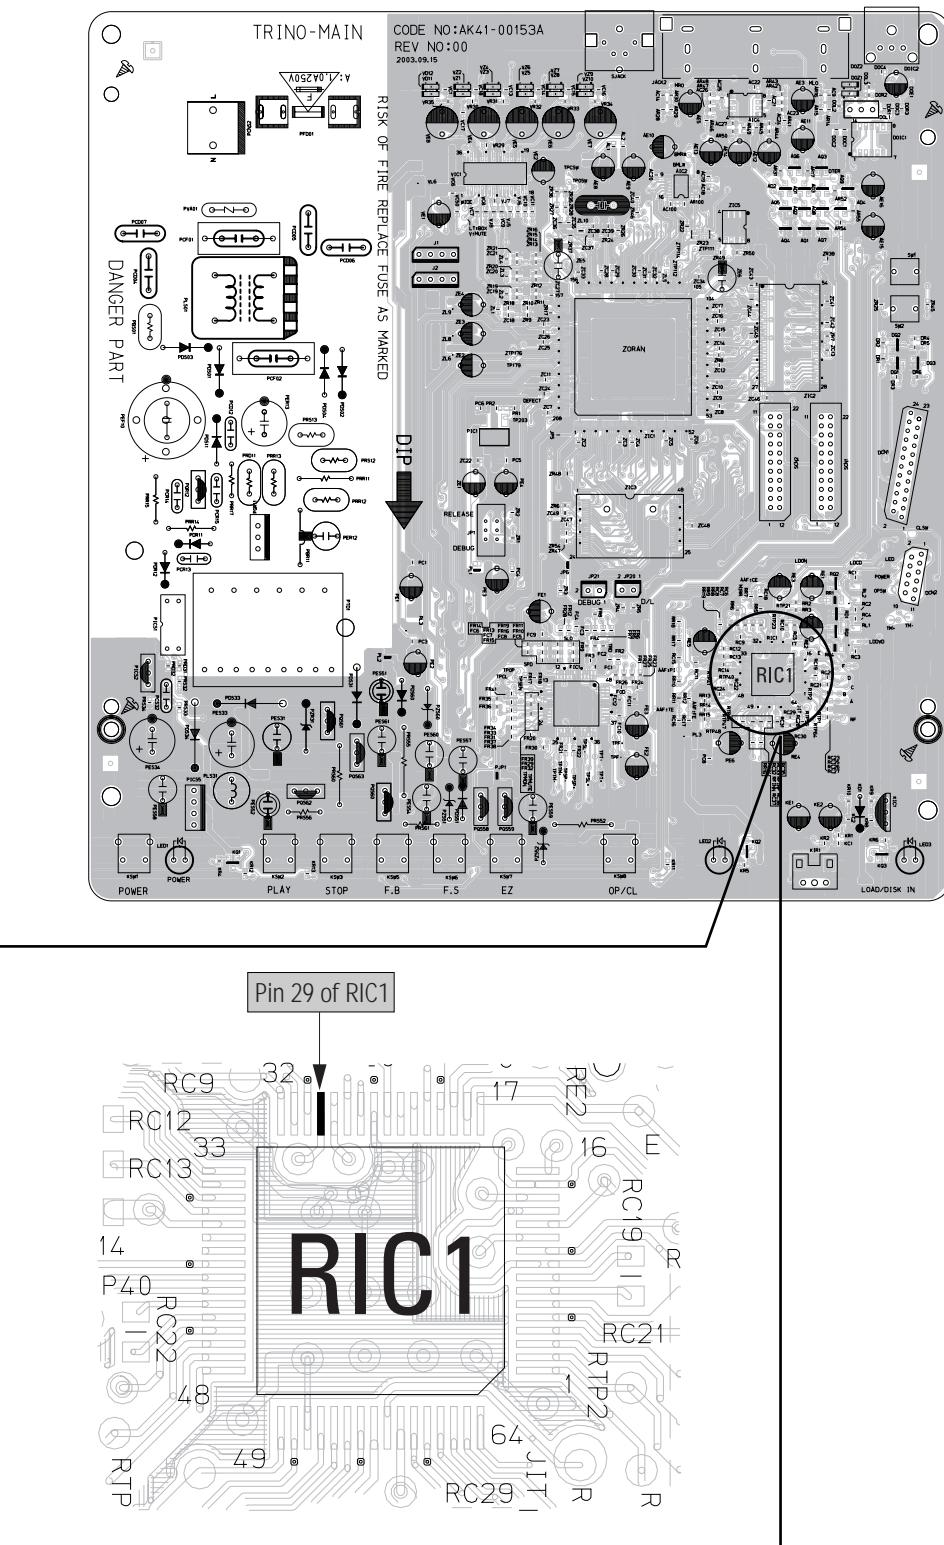

Fig. 6-1 Location of Test Point
- 1) Connect an Oscilloscope to the "Pin 29 of RIC1" Test Point (See Fig. 6-1).